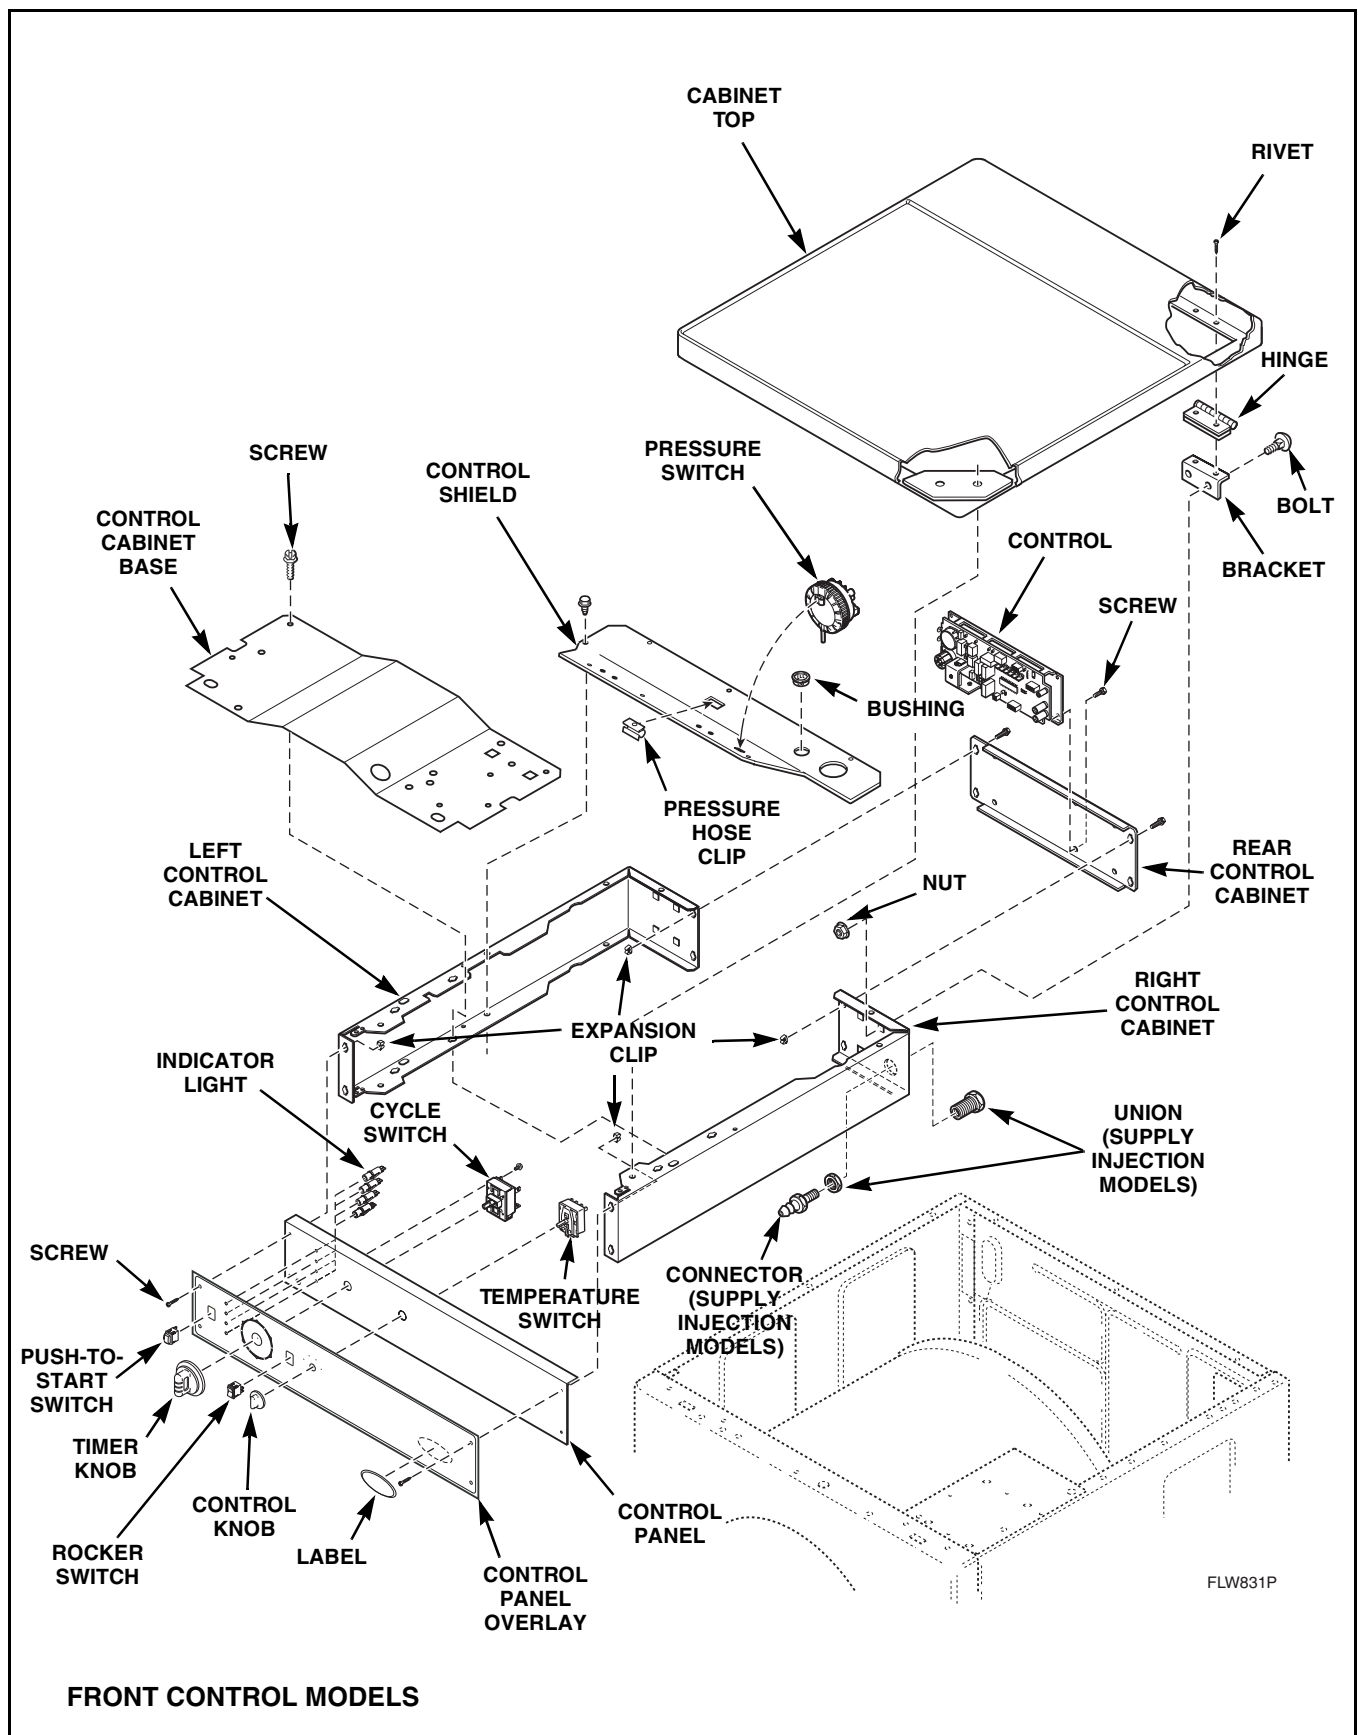

Figure 6
- a. Remove screws holding control panel to control cabinet. Refer to *Figure 6*. Remove panel.
- b. Remove screws holding cabinet top to control cabinet. Refer to *Figure 6*.
- f. Remove timer knob from cycle switch shaft. Refer to *Figure 6*.
- h. Remove screws holding control cabinet base to control cabinet. Refer to *Figure 6*.
- i. Remove screws holding control shield (with controls attached) to bottom rear flange of control cabinet. Refer to *Figure 6*.
- j. Remove screws holding control to rear of control cabinet. Refer to *Figure 6*.
- k. Remove screws holding control cabinet to top flange of side panels. Refer to *Figure 6*.
- m. Remove screws holding left, right and rear control cabinets together. Refer to *Figure 6*.
- a. Remove timer knob from cycle switch shaft. Refer to *Figure 6*.
- b. Remove screws holding control panel to control cabinet. Refer to *Figure 6*.
- e. Remove screws holding temperature switch to control panel. Refer to *Figure 6*.
- e. Refer to *Figure 6* for switch removal.